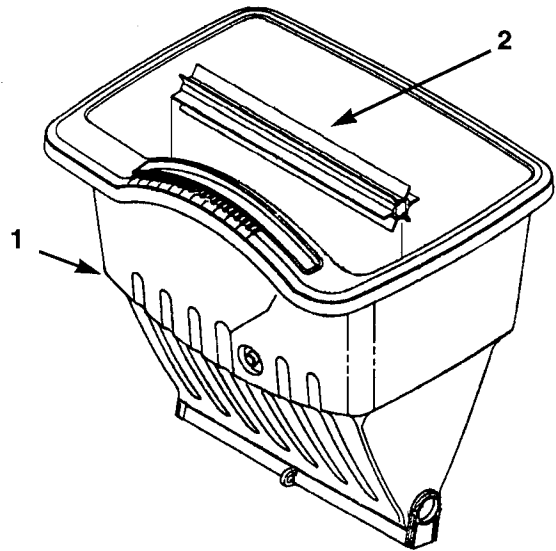

Figure 4
2. Carefully turn the hopper over and put the impeller (Fig. 4), between the flanges of the two hopper bushings.